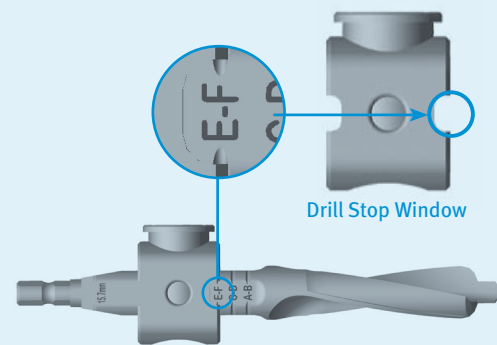

Fig. 53
- Confirm that the correct size is displayed in the Cemented Tibial Drill Stop Collar window (Fig. 53) and that the Cemented Tibial Drill Stop Collar is locked on the Cemented Tibial Drill.